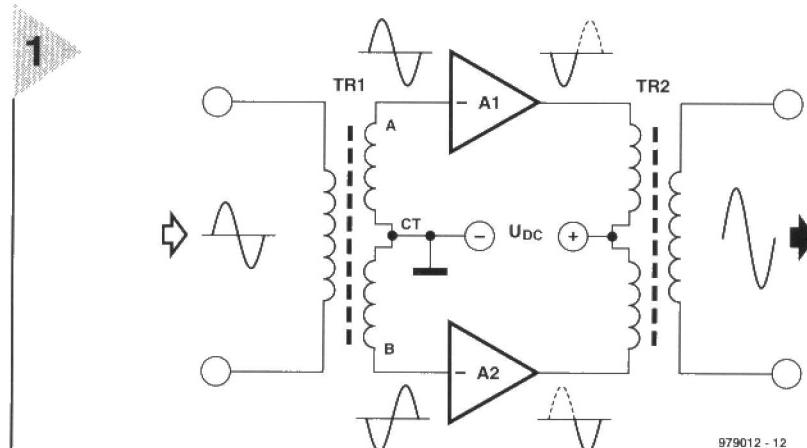

Figure 1. Basic operation of a push-pull amplifier. Thanks to the balanced operation, even-order harmonics are cancelled out at the output.
The basic concept of a push-pull amplifier is illustrated in Figure 1. Two identical amplifiers, A1 and A2, each amplify one half-cycle of the input sinewave signal. At the input, phase splitting is achieved with the aid of a transformer whose secondary winding has a grounded centre tap (CT). At the output, a similar, but reverse-connected, transformer is used to recombine the signal components. Here, the centre tap is on the primary winding, and used to feed in the supply voltage.